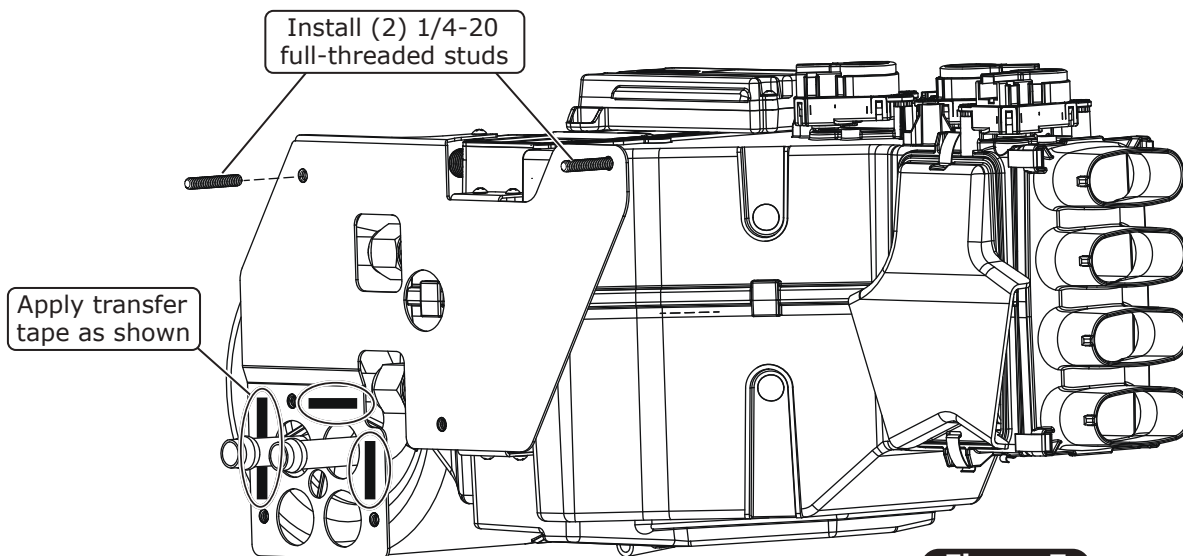

Figure 7
7. Install (2) 1/4-20 full-threaded studs into the evaporator firewall bracket as shown in Figure 7, below.
8. Apply transfer tape to the evaporator firewall bracket as shown in Figure 7, below.